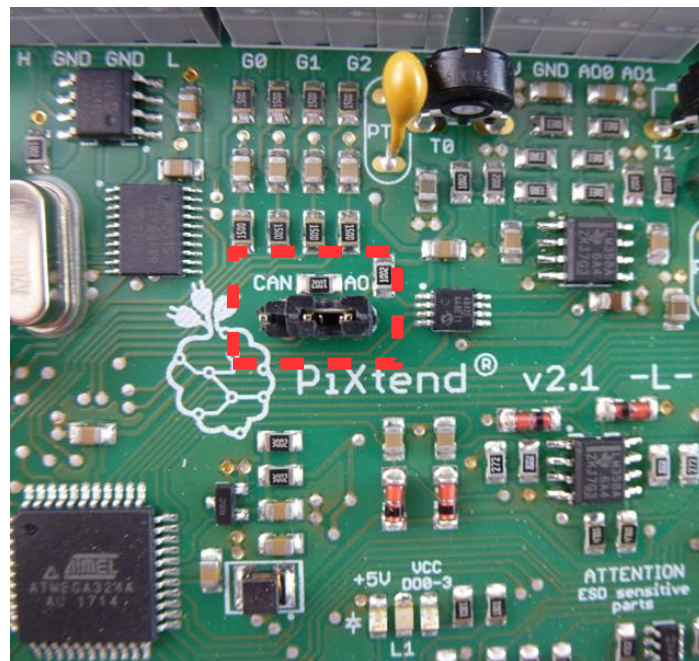

Figure 77: Jumper for switching between AO and CAN
The digital to analog converter (DAC) for the AOs is connected to the Raspberry Pi via the SPI. Since the analog outputs (AO) and the CAN controller share an SPI-chip-select (CS1), a prefix must be made. To do this, the jumper (figure 77) is set to the “AO” position (default setting).